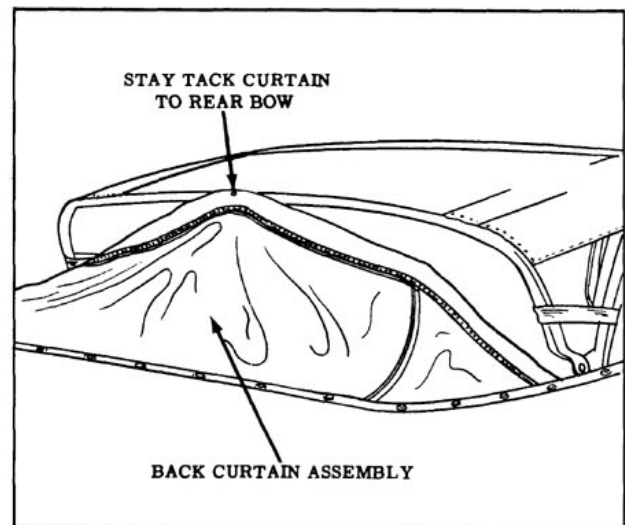

Fig. 16-138 Tacking Curtain at Rear Bow
14. Secure back curtain assembly with one tack to rear bow to prevent damage to plastic sheet. (Fig. 16-138)